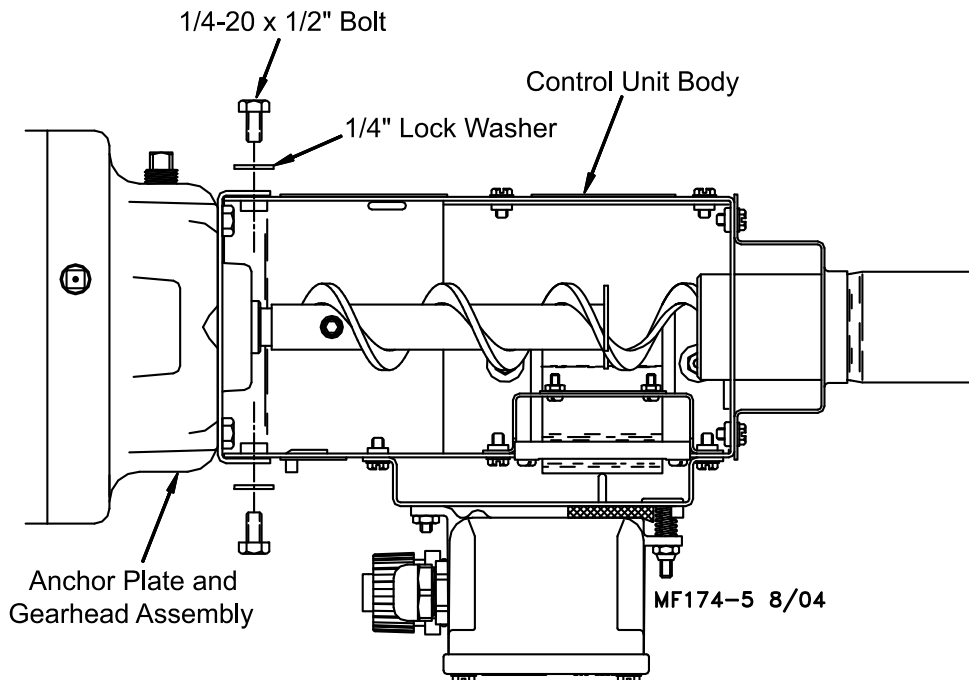

Figure 40. Attaching the Anchor Plate and Gearhead Assembly to the Control Unit Body
7. Attach the Anchor Plate and Gearhead Assembly to the Control Unit Body using the included 1/4" Lock Washers and 1/4-20 x 1/2" Bolts. See **Figure 40**.